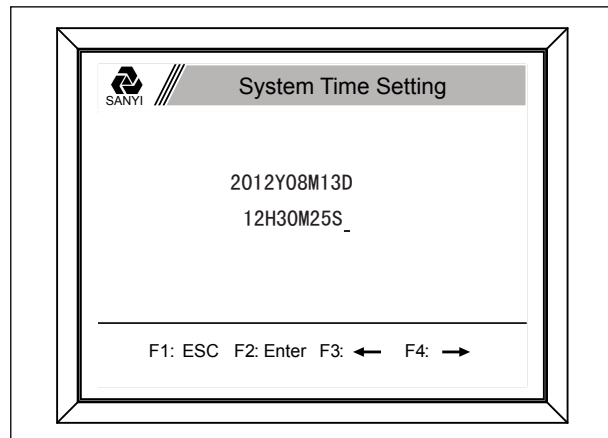

Fig 3-3.4
b. click F2 key to confirm, then the cursor will automatically move to the next number(see fig3-3.4);